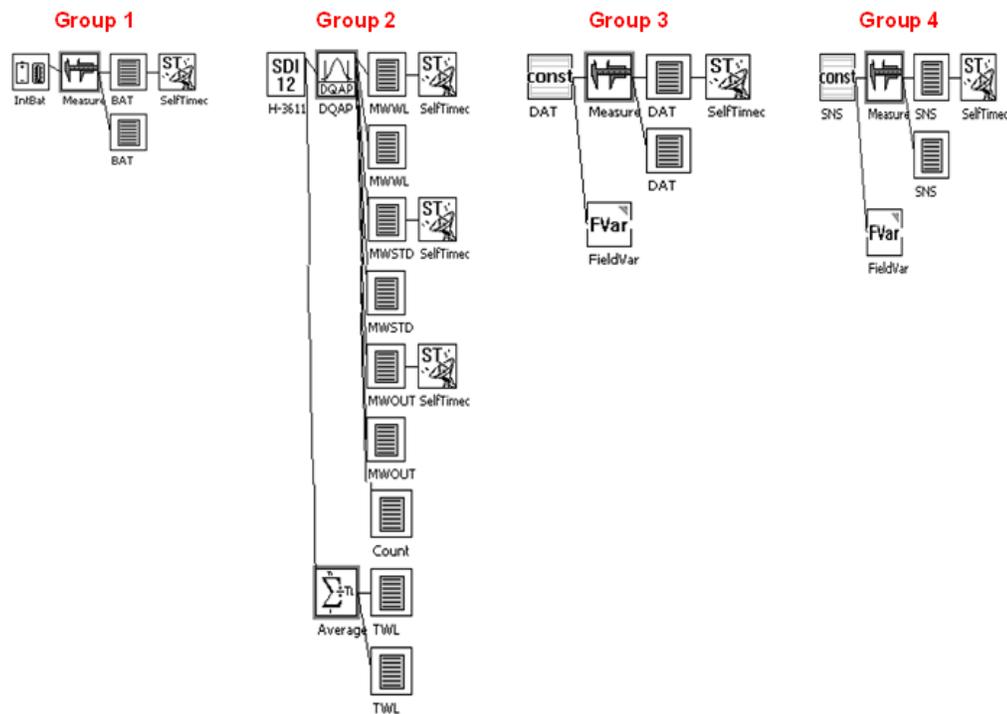

Figure 3-28. Final graphical setup for a WaterLog[®] sensor, which is configured by CIL/SIL prior to deployment.
5. A plot will be generated as shown in fig. 3-28. If data are displayed, then they are being transmitted and ingested.